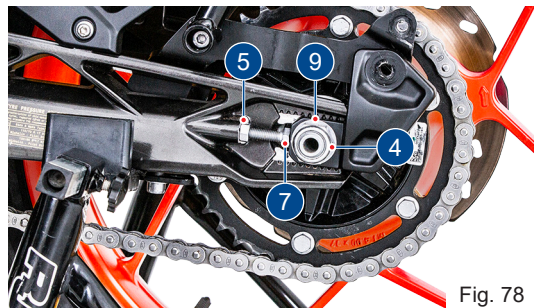

Fig. 78
- Remove the axle mounting nut (4) (**ref. Fig 78**) using the proper tool from the tool kit (refer **page 202**).
- Release the lock nuts (5 & 6) and screw-in the adjuster bolts (7 & 8) (**ref. Fig. 78 & 79**).